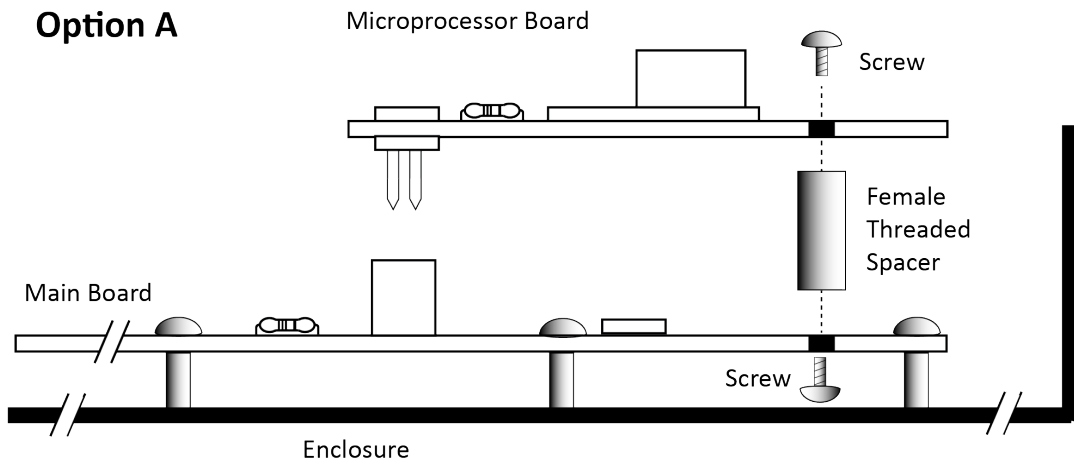

Figure 3. Option A Installation
2. Attach the threaded standoff to the top of main board by routing one of the screws up through the underside of the main board and securing it to the standoff. Use Figure 3 as a guide.